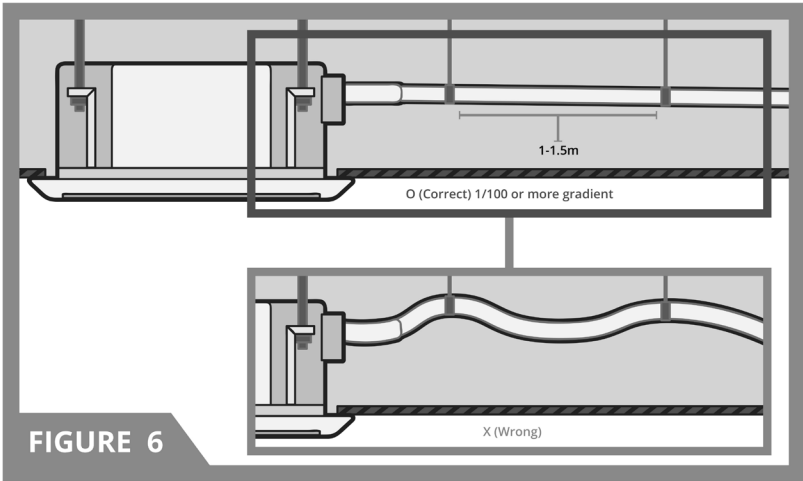

FIGURE 6
1. Maintain a steady downward slope of at least 1/100 along the entire length of the drain hose (See Fig. 6 on next page).